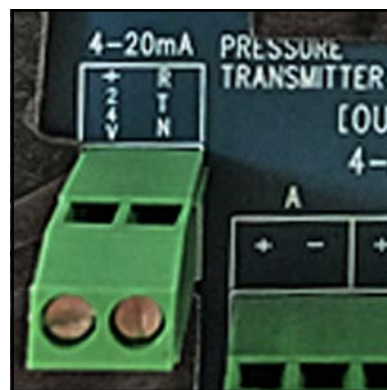

Figure 30: Pressure Transmitter Connections
8. Use a separate wiring conduit run for any 4-20mA pressure transmitter input. This input is used when a live input pressure reading for the main process pressure is desired, to determine an equivalent dew point by the Aurora H2O analyzer. Wire the 4-20mA pressure transmitter to the Pressure Transmitter terminal block (see Figure 30 below). The Aurora H2O supplies 24VDC for use with a loop-powered, 2-wire pressure transmitter.